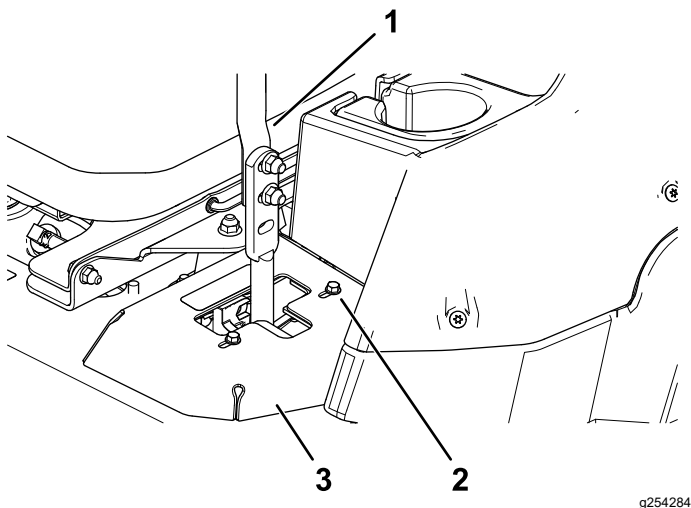

Figure 52
- If the machine tracks to the right, loosen the bolts and adjust the left stop plate rearward on the left T-slot until the machine tracks straight (Figure 52).
- If the machine tracks to the left, loosen the bolts and adjust the right stop plate rearward on the right T-slot until the machine tracks straight (Figure 52).
8. Tighten the stop plate (Figure 52).